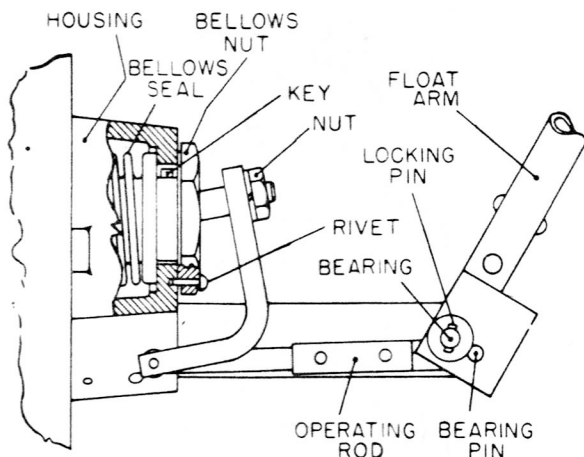

Figure 250—Housing and Fulcrum Pipe Assembly
(See figure 250.)
3. File off head of rivet, and drill out remainder of rivet with No. 53-.059 drill to a depth of 1/4 inch from top of bellows nut. (See figure 250.)